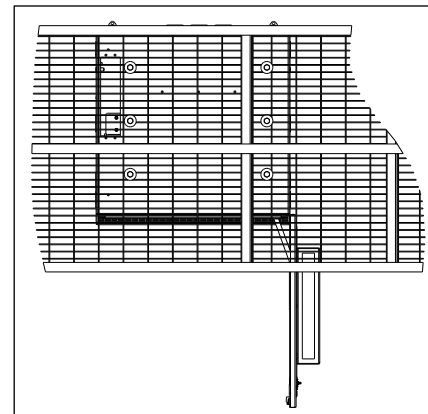

Figure 7 Installing on a Platform
8. To secure the CUBE to a steel grate platform, install 1/2" corrosion-resistant Grade 5 steel hardware through the cabinet and platform grate. Ensure that the bolts are long enough to extend past the nut on the bottom side of the platform grate. For all mounting applications, each bolted joint should have a minimum Ø1 inch fender washer on the inside of the cabinet (and underside of the platform grate for platform mounting) with a lock washer. The washer on the underside of the platform must be large enough to cover both adjacent bearing bars as shown in Figure 7.
In order to prevent condensation prior to being placed in service, do not remove the desiccant until the CUBE is sealed and power is applied. A basic electrical diagram is shown in Figure 7.